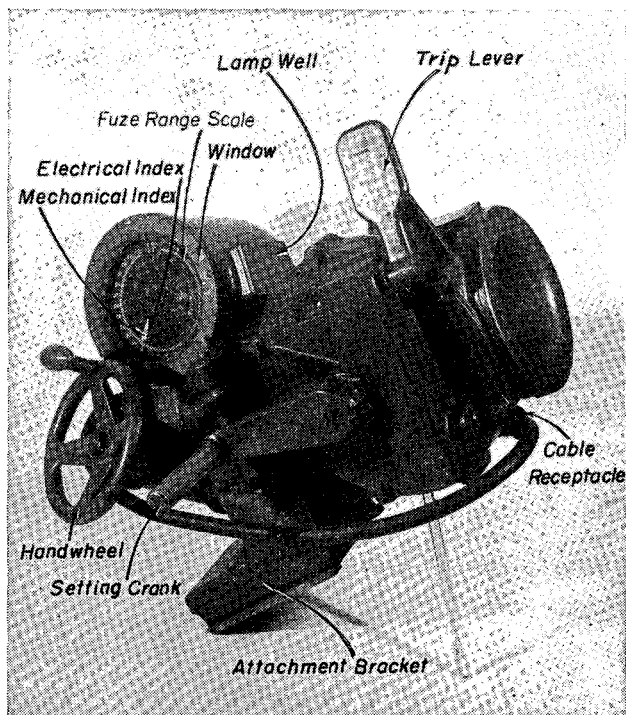
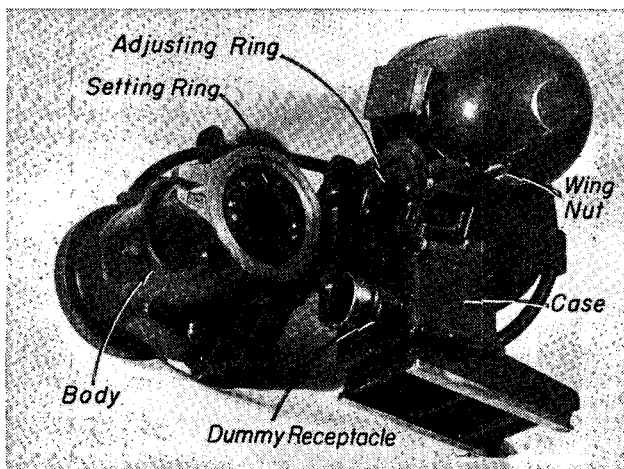

FIGURE 14.—M8 fuze setter.
FIGURE 15.—M8 fuze setter opened for inspection.
■ 70. DESCRIPTION.—*a.* The fuze setter consists principally of the fuze indicator, the adjusting mechanism, and the setting mechanism. The indicator and adjusting mechanisms are enclosed within the case (fig. 15) while the setting mechanism is housed within the body.
c. The *adjusting mechanism* is that mechanism which causes the fuze to be set for the particular fuze setting desired. A handwheel (fig. 14) is geared both to the mechanical index on the scale and to an adjusting ring (fig. 15) whose function is to engage and hold fast the lug or slot on the setting element of the fuze on the projectile. By turning the handwheel the mechanical index is made to indicate a particular fuze setting, and the adjusting ring is revolved to such a position that its pawls will stop the setting element on the fuze at the same fuze setting that is indicated by the mechanical index.
d. The *setting mechanism*, driven by the setting crank (fig. 14), contains a setting ring (fig. 15) which engages the lug or slot on the body of the fuze and turns the projectile until the fuze body is properly positioned with respect to the setting element of the fuze.
■ 73. To CHANGE RINGS IN FUZE SETTER.—*a.* Open the fuze setter as shown in figure 15, remove the screws and the lock washers in each ring already assembled in the fuze setter, and remove this set of rings. If the rings stick in place in the fuze setter after the fastening screws have been removed, insert the screws into the tapped holes in the rings and pull the rings loose. Select from the accessory chest the proper set of rings to be used; then assemble the adjusting ring to the adapter in the case or lower portion of the fuze setter, and the setting ring to the socket in the body or upper portion.
h. Whenever the cable receptacle (fig. 14) is not connected to the gun junction box, it should be stowed on the dummy receptacle with the cable wrapped around in front of the fuze indicator.